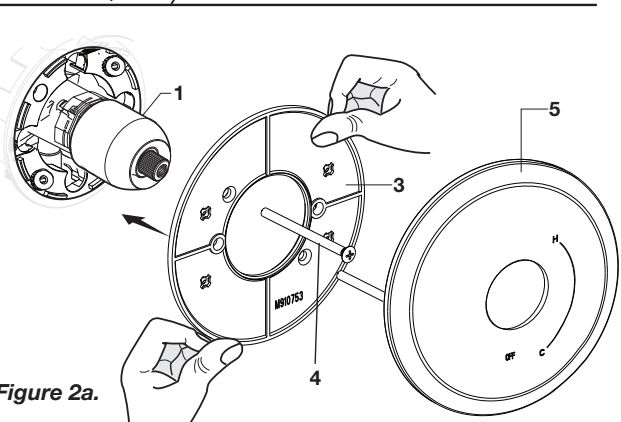

Figure 2a.
- **Figure 2a.** Push MOUNTING PLATE (3) onto CAP (1) and attach to valve body with LONG SCREWS (4).
- **Figure 2a.** Push ESCUTHCEON (5) on to MOUNTING PLATE (3).